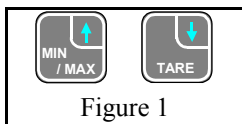

Figure 1
4. Press MIN/MAX and TARE keys at the same time. (See figure 1.)	Top line of display reads "ZEROING SOURCE:" Bottom line of display reads "REF TO ABS ZERO"
1. Press MIN/MAX and TARE keys at the same time. (See figure 1.)	Top line of display reads “ZEROING SOURCE:” Bottom line of display reads “REF TO ABS ZERO”
<p>1. Apply a known, accurate pressure source. This may be true atmospheric pressure, with known reference defined by a local barometer.</p> <p>2. Press MIN/MAX and TARE keys at the same time. (See figure 1.)</p> <p>3. Press up ↑ or down ↓ arrow key until desired zero function is shown on the bottom line.</p> <p>4. Press the PRGM key.</p> <p>5. Press any of up ↑ or down ↓ arrow key or the PRGM key to begin editing.</p> <p>Example: set current pressure value to 29.5 InHg.</p>	<p>Top line of display reads “ZEROING SOURCE.”</p> <p>Bottom line of display reads “REF TO ABS ZERO”</p> <p>Bottom line of display reads “USER ADJ. ZERO”</p> <p>Top line of display shows the current non-zero compensated pressure value. Bottom line of display shows the same value, along with the engineering unit.</p> <p>Top line of display continuously updates. Bottom line of display data is frozen, and the first digit is blinking.</p>